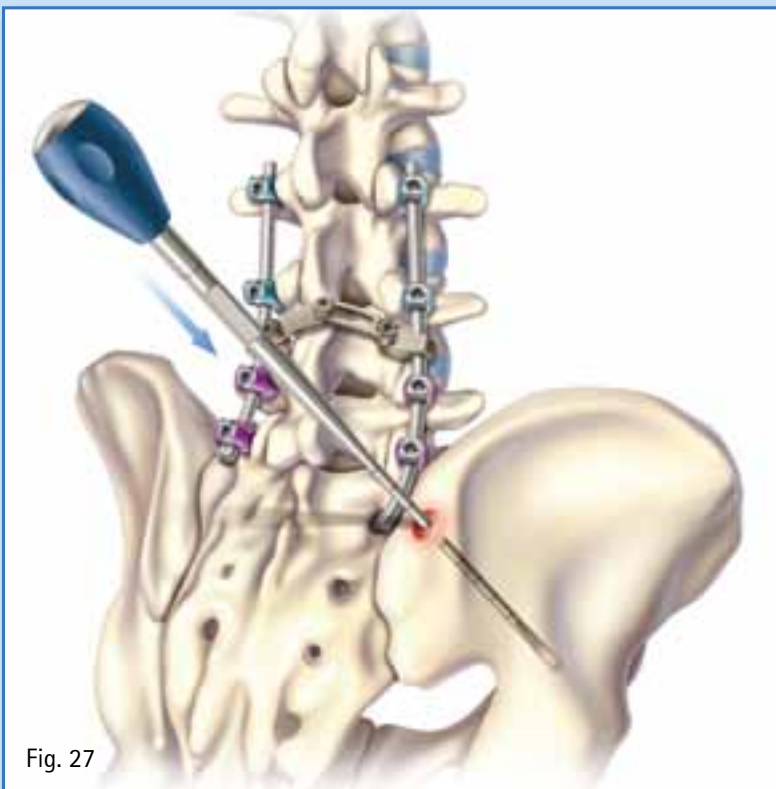

Fig. 27
- Perforate the ilium using a straight or curved extended length bone probe (FW476R or FW477R) or straight or curved extended length thoracic probe (FW474R or FW475R). (Fig. 27)